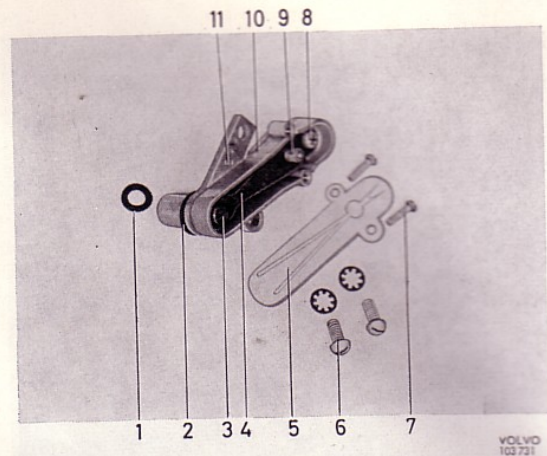

Fig. 100 Temperature compensator
3. Should there be a powerful drop in the idling speed during idling for a lengthy period, especially when the weather is warm, check the function of the temperature compensator by removing the plastic cover and pressing in the valve (3, Fig. 100). This should move under very light pressure and return to its position without jamming. This applies at a temperature above 20° C (70° F). The valve starts opening at 10° C (50° F).
The temperature compensator is replaced complete. It is removed from the carburettor by unscrewing the screws (6, Fig. 100). Take out the
**N.B.** The temperature compensator is marked "120°" for the B 20 A engine and "60°" for the B 20 B engine (see 11, Fig. 100).